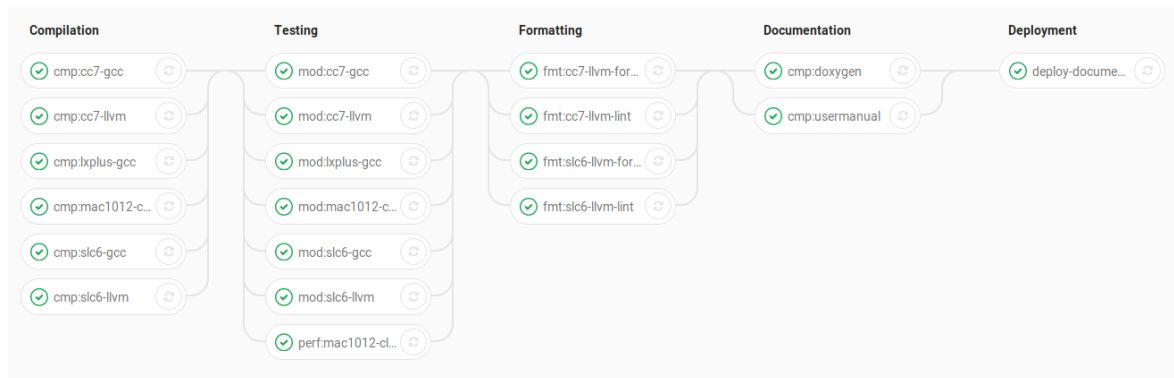

Figure 10.1: Typical Allpix² continuous integration pipeline with 20 jobs distributed over five distinct stages. In this example, all jobs passed.
Quality and compatibility of the Allpix² framework is ensured by an elaborate continuous integration (CI) which builds and tests the software on all supported platforms. The Allpix² CI uses the GitLab Continuous Integration features and consists of five distinct stages as depicted in Figure 10.1. It is configured via the `.gitlab-ci.yml` file in the repository's root directory, while additional setup scripts for the GitLab Ci Runner machines and the Docker instances can be found in the `.gitlab-ci.d` directory.